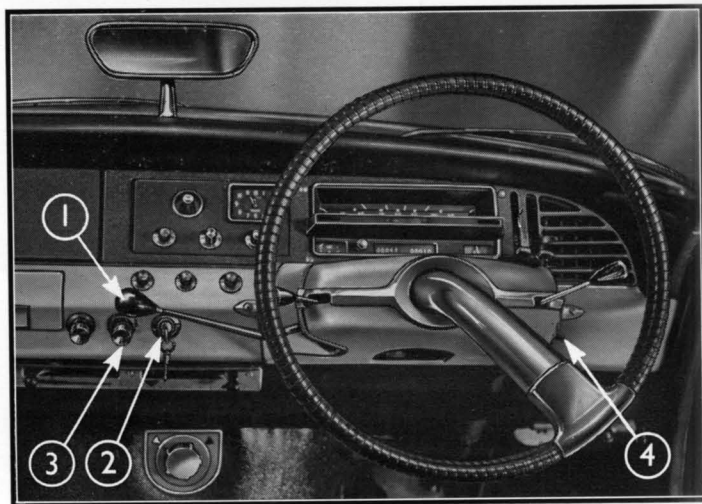

Fig. 4
(Refer to fig. 4).
Changing Gear: Depress clutch pedal completely, change gear smoothly with gear lever (1) (fig. 4) located behind steering wheel; then release clutch pedal.